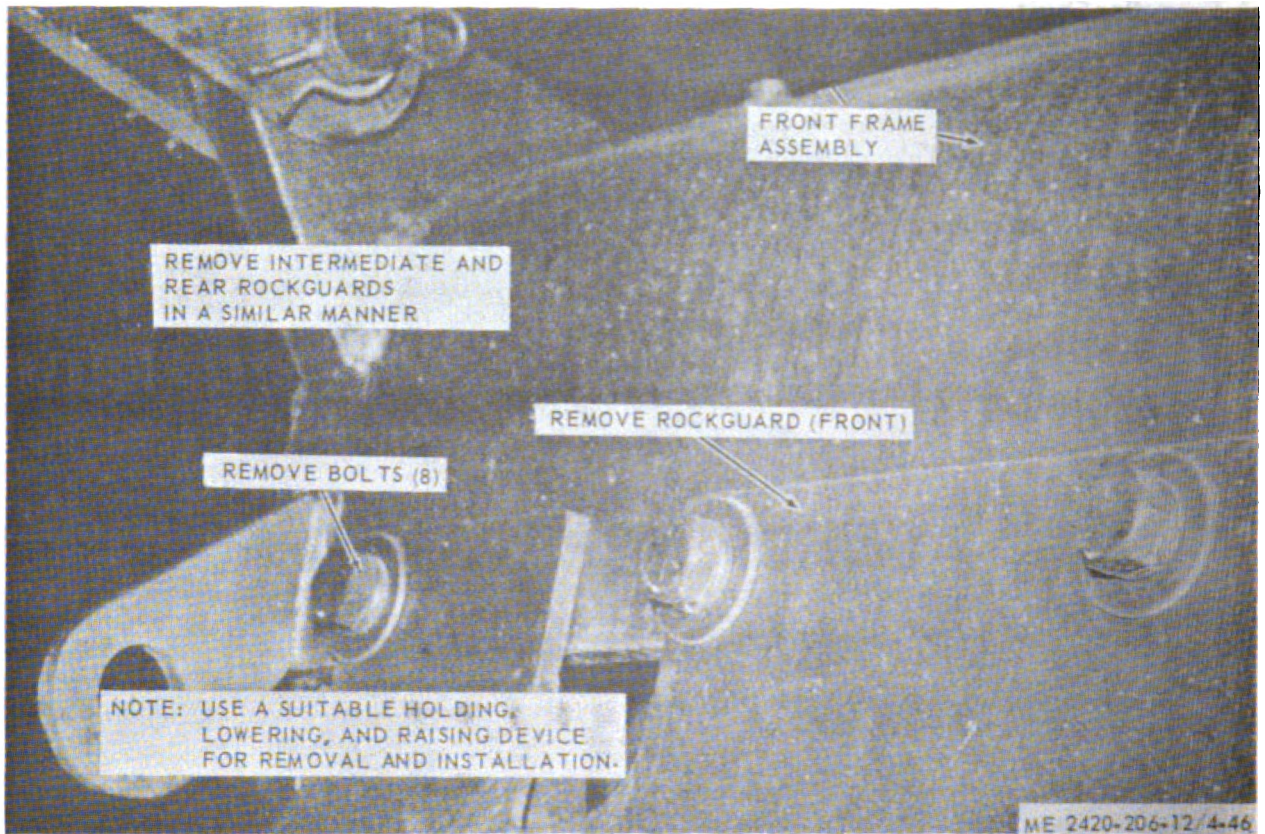

Figure 4-46. Rock guards, removal and installation.
a. *Removal.* Remove rock guards as illustrated in figure 4-46.
(1) Clean parts and dry thoroughly.
(2) Inspect for cracks, breaks and other damage. Replace unrepairable defective rock guards as necessary.
c. *Installation.* Install rock guards as illustrated in figure 4-46.